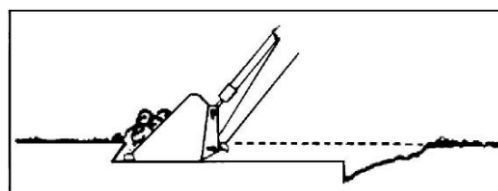

Fig 4.14.Peeling and scraping.
- Use a slight bucket angle, travel forward, and hold the lift control forward to start the cut. Make a short, angle cut approximately 6" deep and break out cleanly shown in figure 4.14.